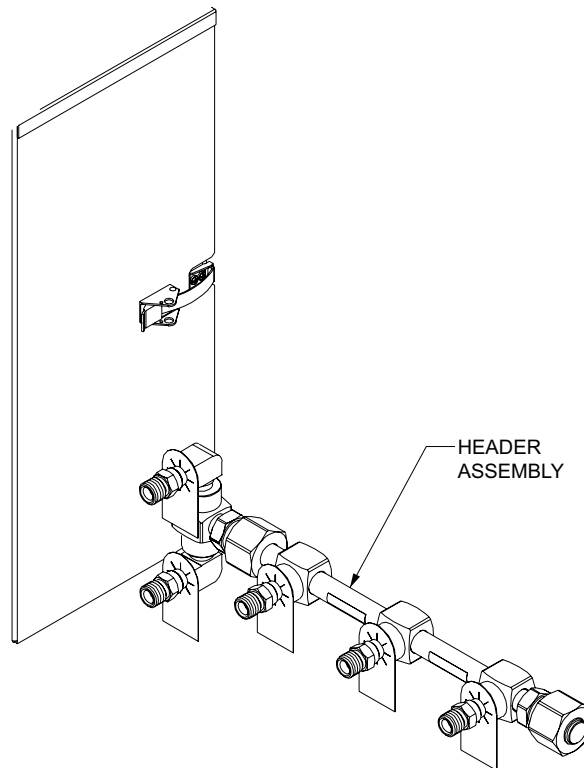

Figure 4
7. For manifolds with more than three cylinders per bank, additional shipping cartons contain extension headers and header wall brackets. Depending on the number of cylinders, header extensions are configured with two or three cylinder inlets. Large manifold systems may also include combinations and multiples of each type of header extension. Remove large union nut and plug from left and right manifold inlets. Attach appropriate header extension to manifold control panel. Position cylinder inlet connections of each header extension so they are pointing out (away from the wall) and tighten header extension (Figure 4).
10. For manifolds with more than three cylinders per bank, additional shipping cartons contain extension headers and header wall brackets. Depending on the number of cylinders, header extensions are configured with two or three cylinder inlets. Large manifold systems may also include combinations and multiples of each type of header extension. Remove large union nut and plug from left and right manifold inlets. Attach appropriate header extension to manifold control panel. Position cylinder inlet connections of each header extension so they are pointing out (away from wall) and tighten header extension (Figure 4).